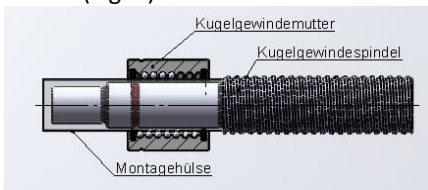

Fig. 2
- Remove one of the two axial locks of the nut sleeve and place the sleeve and the nut on the end of the shaft. Centre the sleeve and press it against the beginning of the thread (Fig. 2).